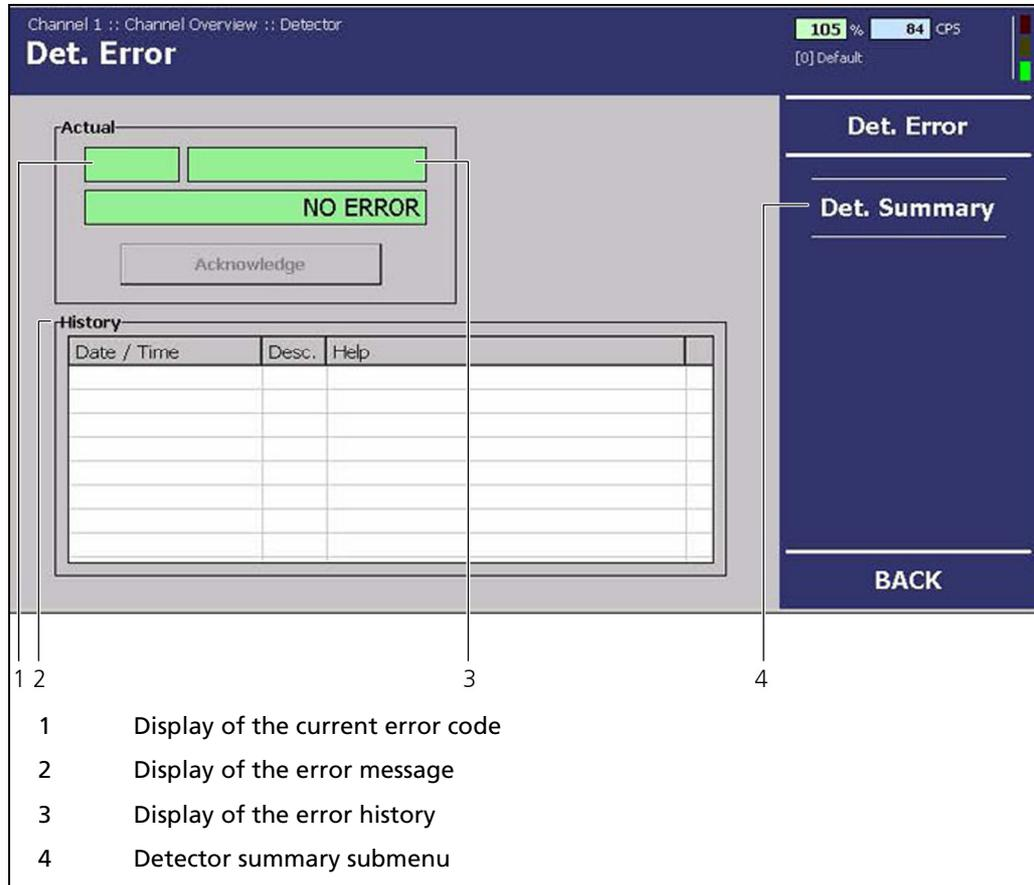

Fig. 29 "Channel Overview" menu, Detector, Det. Error
In the menu "Channel Overview" | Detector | Det. Error , click on <Summary> to access the "Summary" submenu (Fig. 29, pos. 4).